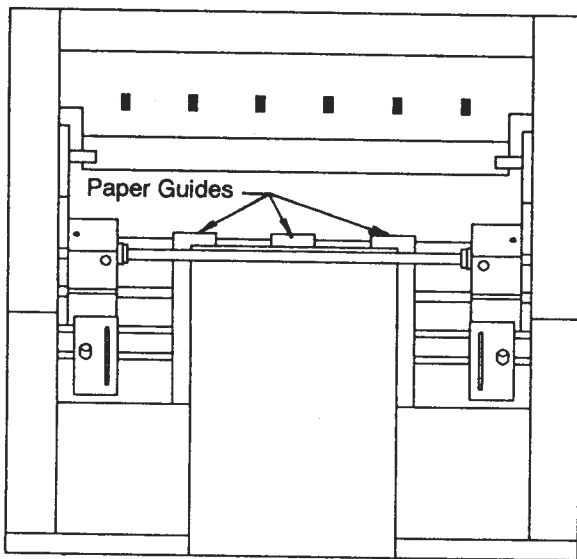

Fig. 7
4. If friction feeding use left, right and center paper guides. If feeding with tractors, use center paper guide only. (Fig. 7)